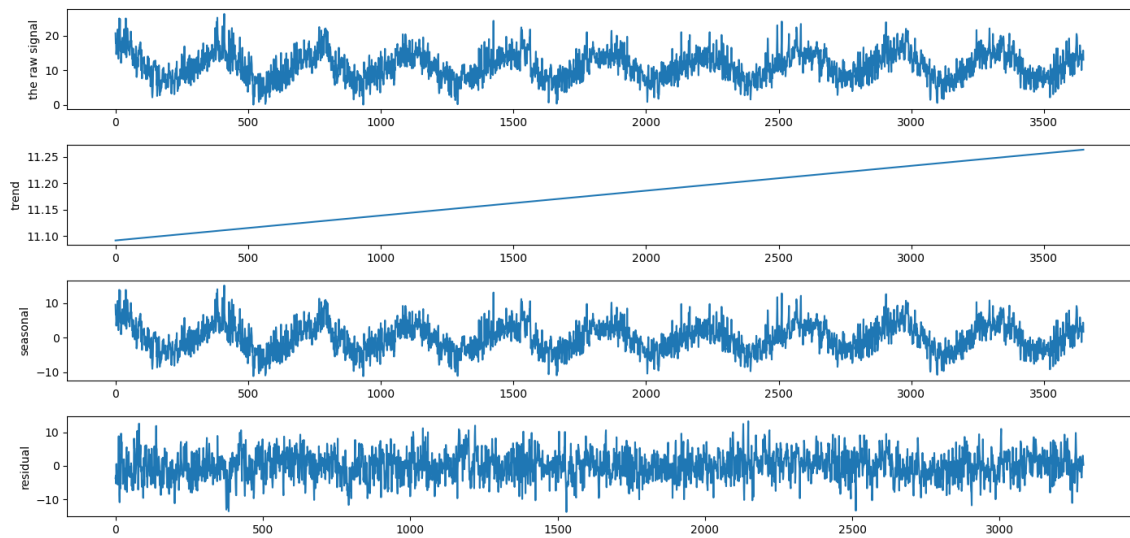

Figure 10: Decomposition of the first dataset by LinearRegression and difference method.
- (c) *Linear Regression method (Figure 10 and 11)*